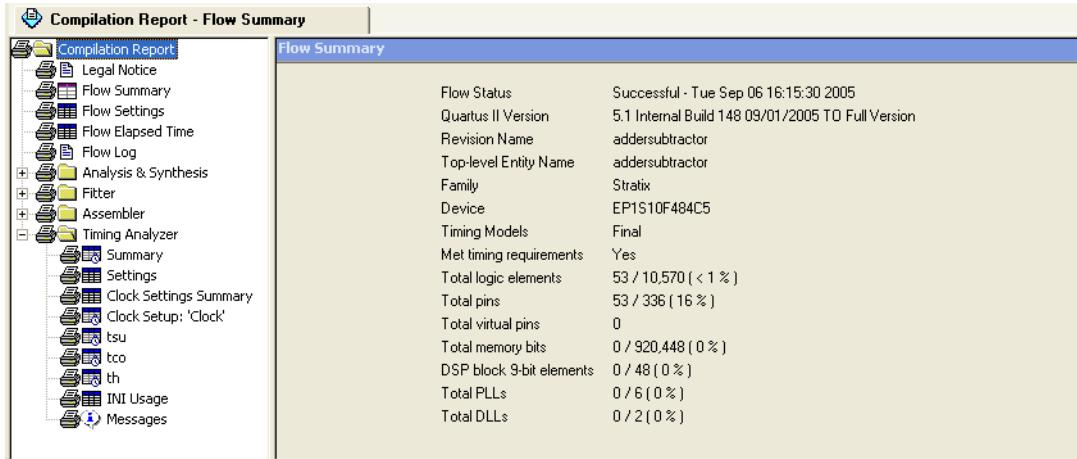

Figure 19: Compilation report.
2. When the compilation is finished, a compilation report is produced. A window showing this report, displayed in Figure 19, is opened automatically. The window can be resized, maximized, or closed in the normal way, and it can be opened at any time either by selecting Processing > Compilation Report or by clicking on the icon . The report includes a number of sections listed on the left side of its window. Figure 19 displays the Compiler Flow Summary section, which indicates that only a minuscule amount of chip resources are needed to implement this tiny circuit on the selected FPGA chip.
- Click on the small + symbol next to Timing Analyzer to expand this section of the report, as shown in Figure 19. Clicking on Timing Analyzer item **Summary** displays the table in Figure 20. The last entry in the table shows that the maximum frequency for our circuit implemented on the specified chip is 217.63 MHz. You may get a different value of f_{max} , dependent on the specific version of the Quartus II software installed on your computer.